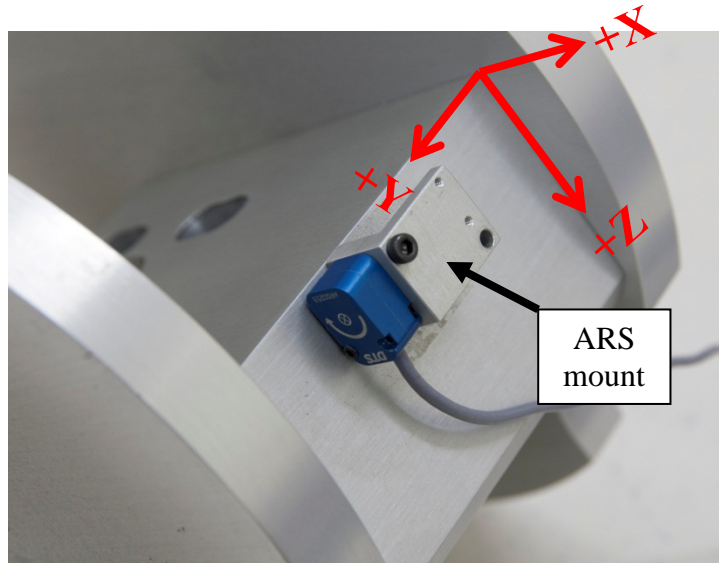
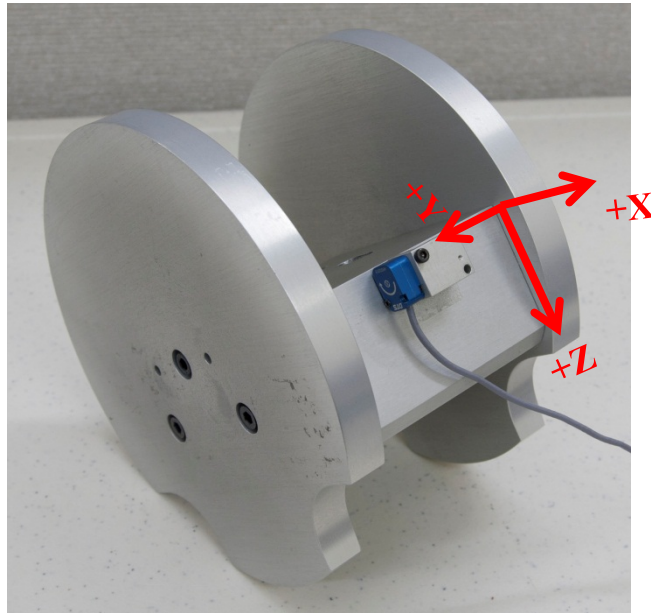

Figure 27. Install ARS mount to front of headform
Figure 28. ARS installed to measure rotational velocity about the headform Y axis
- Install the Angular Rate Sensor (ARS) to the ARS mount then install the mount to the front of the headform⁶ so that it measures rotational velocity about the headform Y axis⁷ (Figure 27 and Figure 28).